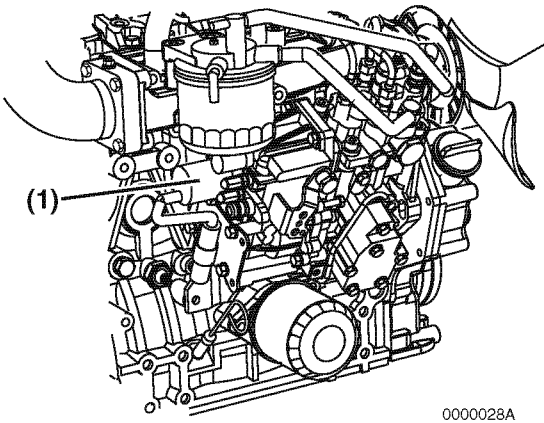

Figure 19
When the key is turned to the ON position, the engine stop solenoid (Figure 19, (1)) is energized and allows the fuel injection pump to deliver fuel to the engine, allowing the engine to be started. When the key is turned to the OFF position, the engine stop solenoid is de-energized and shuts off the fuel supply from the fuel injection pump to the engine, causing the engine to stop.